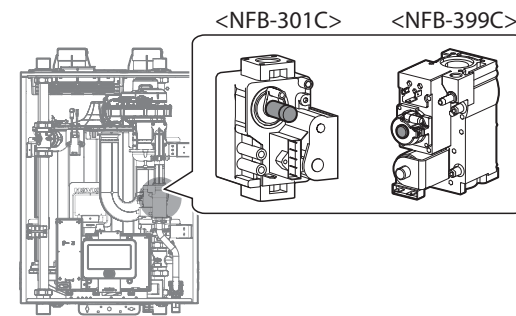

Figure 10. Set Screw Location
- Activate multiple zones and set the boiler to operate at 1Step MIN mode. Measure the offset value at low fire and compare it to the values in Table 3. If the offset value is out of range, the gas valve set screw will need to be adjusted. If adjustment is necessary, locate the set screw as shown in Figure 10. Using a Allen or Star Wrench, turn the set screw no more than 1/4 turn clockwise to raise or counterclockwise to lower the offset value.